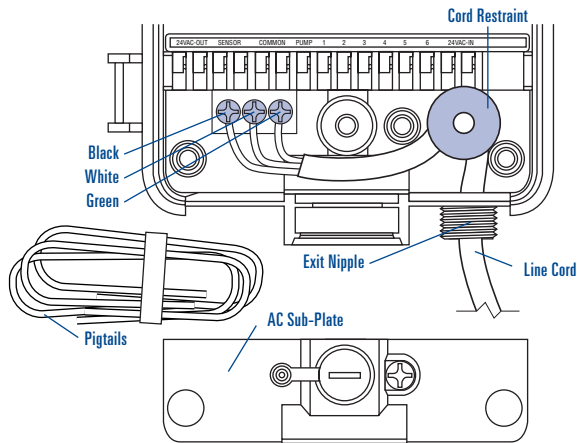

Figure A4: Removing “Line Cord”
- Loosen the screw on the “Cord Restraint” and the three screws on the terminal block and remove the “Line Cord” completely. [See Figure A4]